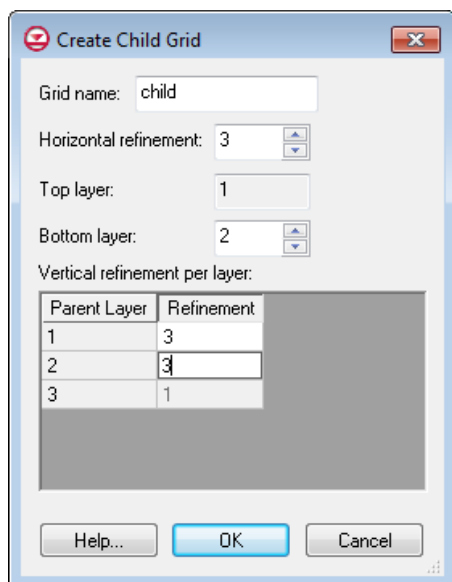

Figure 3. *Create Child Grid* dialog.
6. Set the options as shown in Figure 3. Set the *Bottom layer* to 2 and the *Vertical refinement per layer* to 3 for parent layers 1 and 2.